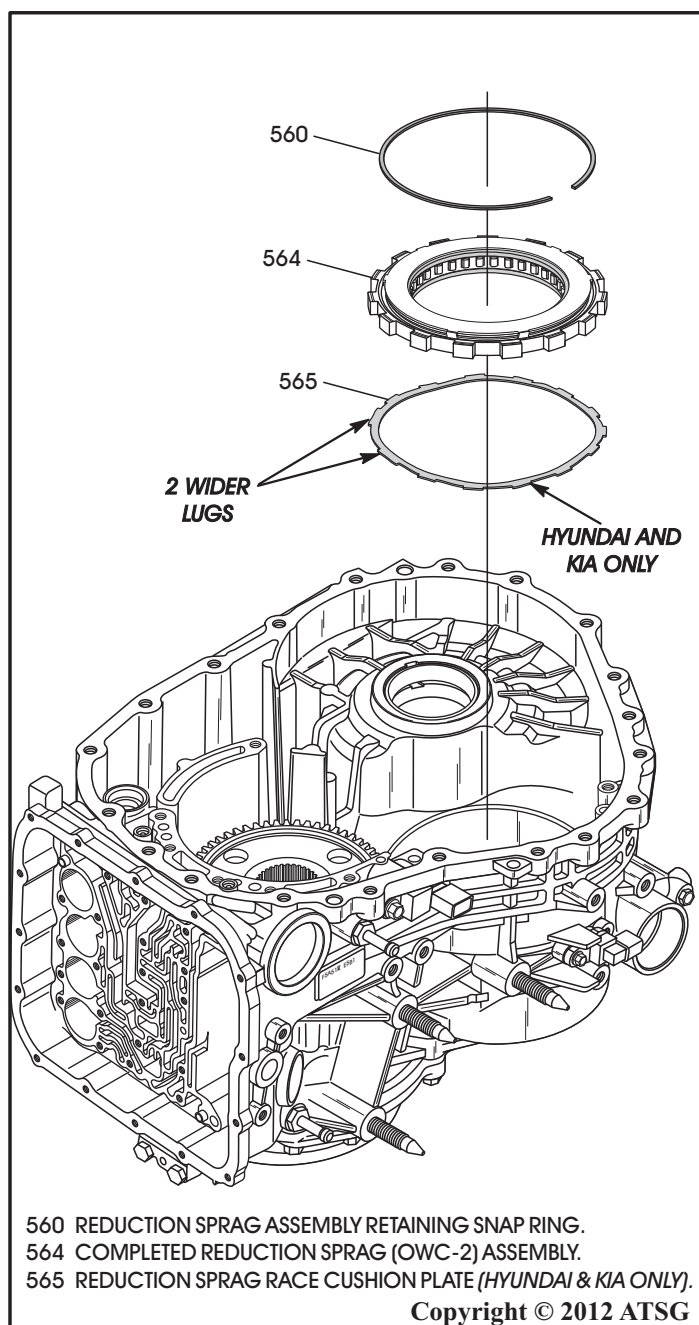
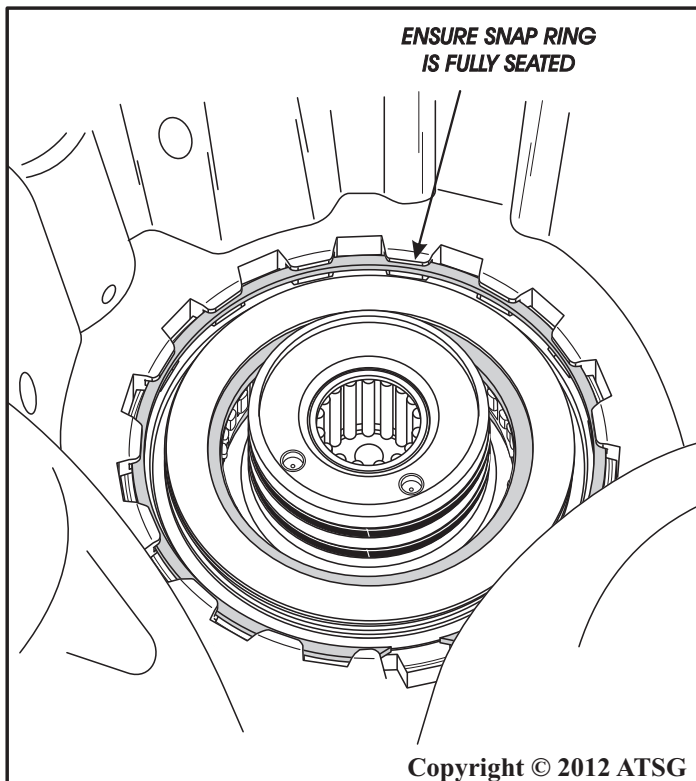

Figure 104
Figure 105
17. Install reduction sprag race cushion plate into the case, as shown in Figure 104.
18. Install the completed reduction sprag (OWC-2) assembly, as shown in Figure 104, into transaxle case with the ID groove facing up.
19. Install the reduction sprag assembly retaining snap ring, as shown in Figure 104, and ensure that it is fully seated (See Figure 105).
20. Ensure that reduction sprag retaining snap ring is fully seated in groove, as shown in Figure 105.